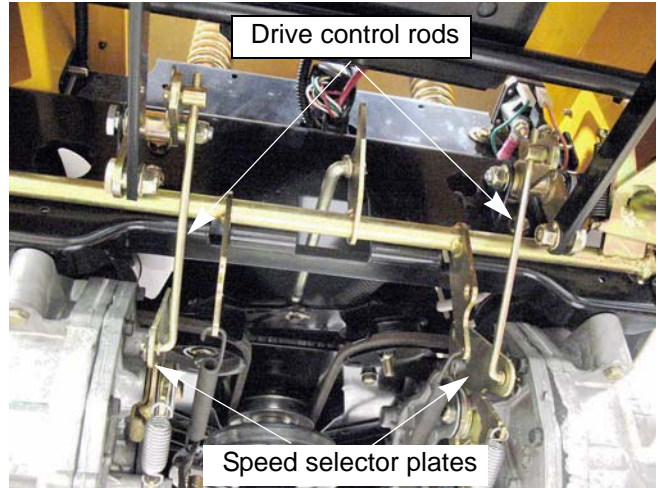

Figure 5.28
5. Disconnect both of the drive control arms from the speed selector plates. See Figure 5.28.